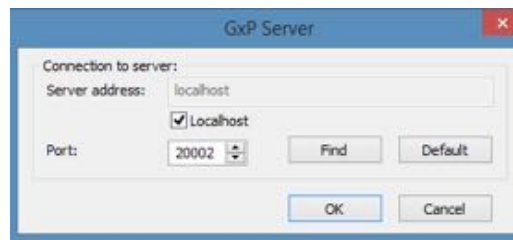

Figure 4-3: ForteBio FB Server Dialog Box
2. Click on ... (**Browse**) to display the ForteBio FB Server dialog box (Figure 4-3).